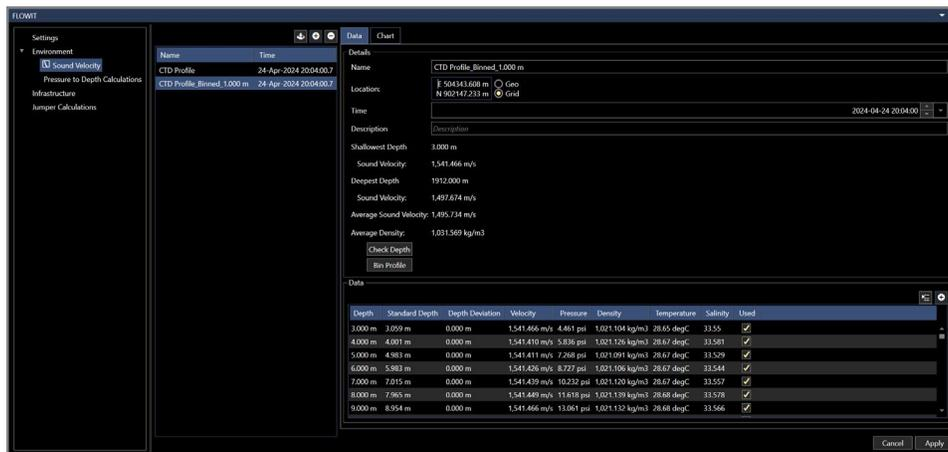

FIGURE 12 – BINNED PROFILE DETAILS
- **Bin Profile:** Profile records are binned into specified layers using Pressure or Depth. This will generate and add to the Sound Velocity Manager a binned profile with the name of selected profile with binned appended, see Figure 12